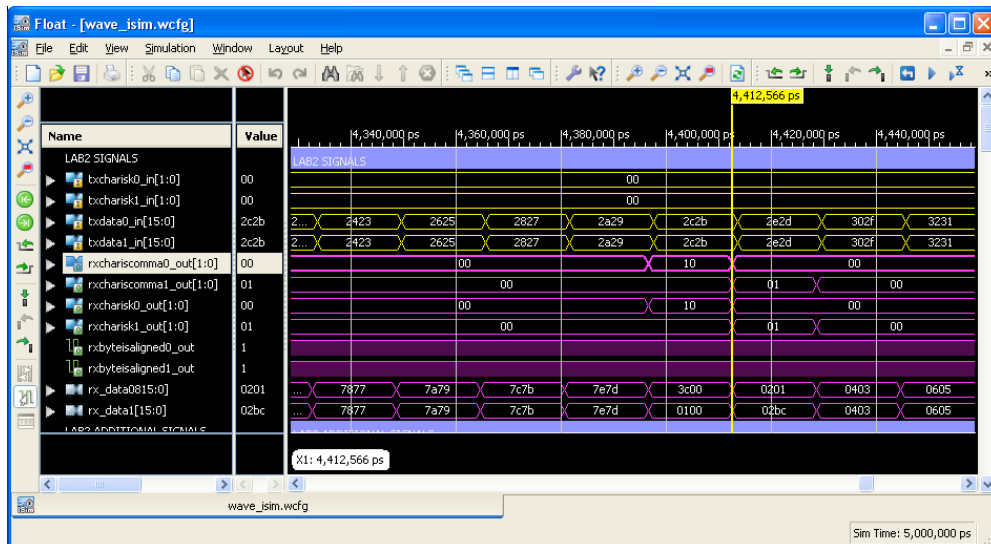
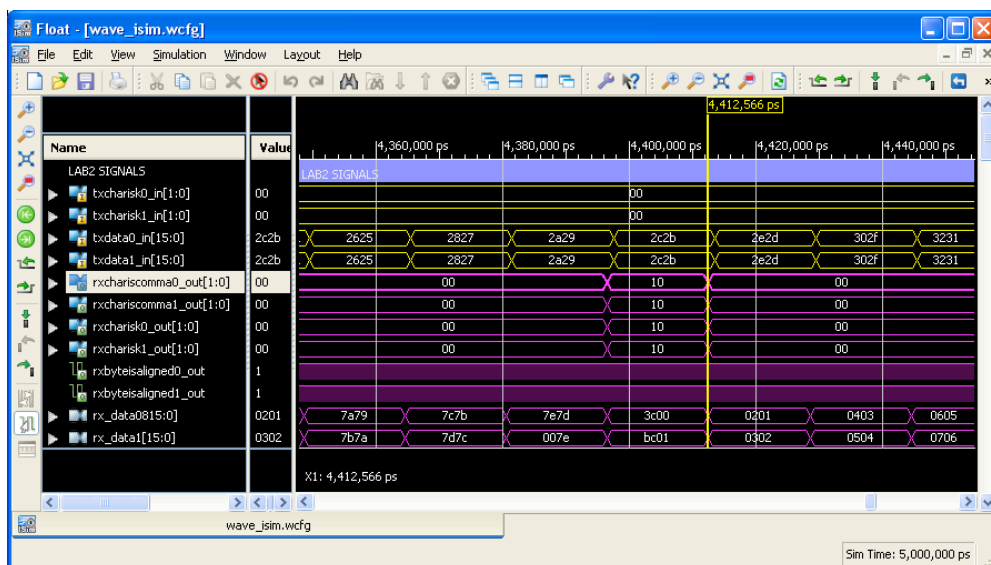

Figure 2. Original Data Alignment
Figure 3. Final Data Alignment
4.1.8. Examine the *RXDATA** signals and notice that the word alignment for GTP1 has changed (Figure 2 and Figure 3).